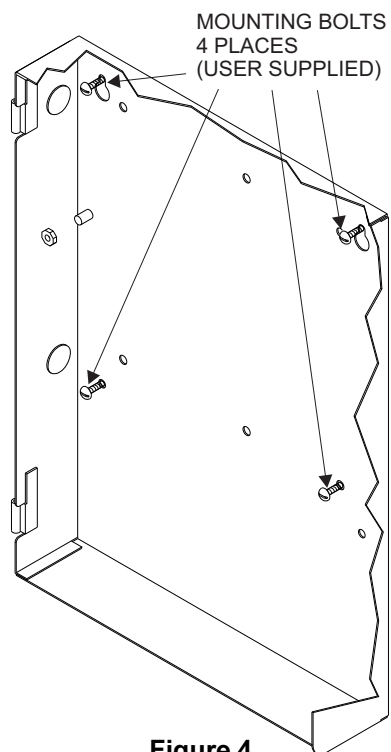

Figure 4
5. Place the backbox over the two top bolts and allow it to slide down over the bolts (Refer to Figure 4).